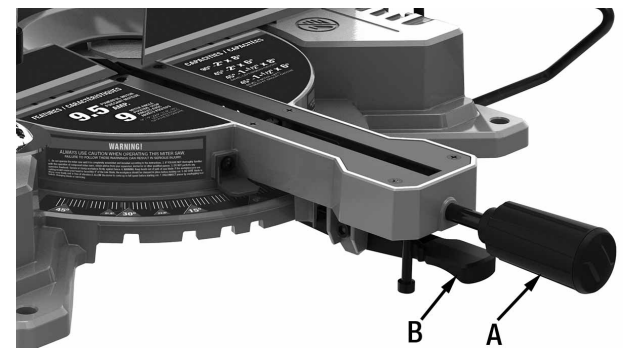

FIGURE 12
11. Loosen the set screw (A) Fig.12 and the hex. nut (B) on the right side of the bevel pivot, loosen the bevel lock knob (C).
12. Adjust the bevel adjustment set screw (A) in or out to bring the saw blade into alignment with the square.
13. Retighten the bevel lock knob and tighten the hex. nut (B) against the bevel pivot. Recheck the alignment, repeat if necessary.
14. Once the adjustment is done, readjust the bevel pointer (D) to line up with the 0° on the bevel scale.
To change the miter angle of the table, simply loosen the miter lock handle (A) Fig.12, and lift the positive stop lever (B) and swing the table to the desired angle to the right, or the left.